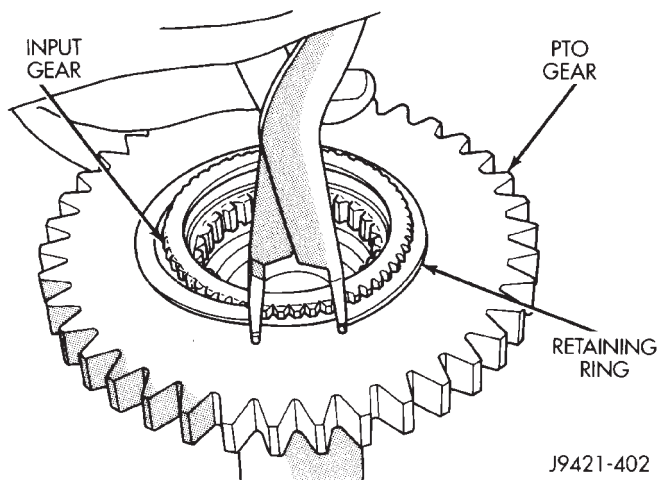
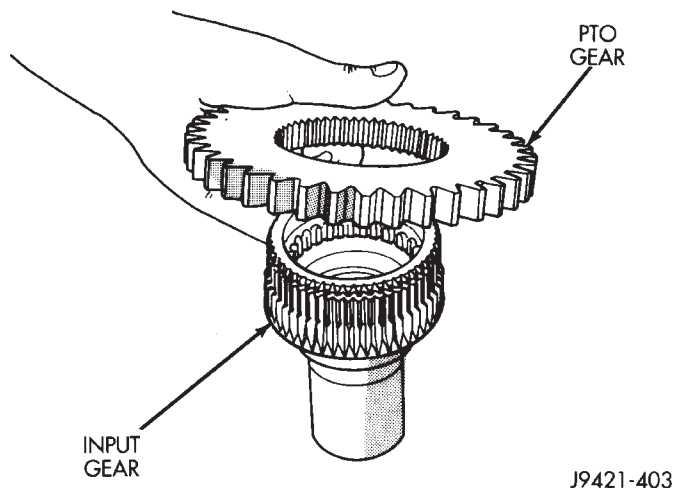

Fig. 38 Removing PTO Gear Retaining Ring
Fig. 39 Removing PTO Gear From Input Gear
(25) Remove retaining ring that secures PTO gear on input gear (Fig. 38). Then slide PTO gear off input gear (Fig. 39).